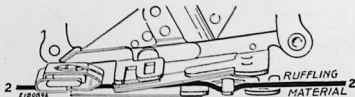

FIG. 70. CORRECT POSITION FOR THE MATERIAL
- (2) Insert the material to be plaited between the blue blades **Line 2, Fig. 70.**